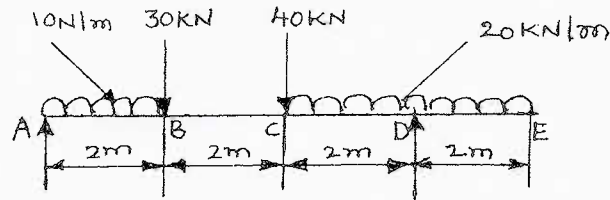

Fig. Q5
- 5 For the beam shown in Fig. Q5. Draw shear force and bending moment diagram. Locate the point of contraflexure if any. (16 Marks)